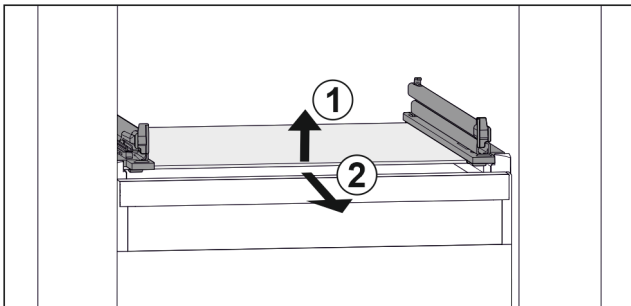

Fig. 141 Example illustration of glass shelf
- ▶ Lift glass shelf at the front. Fig. 141 (1)
- ▶ Remove glass shelf to the front. Fig. 141 (2)